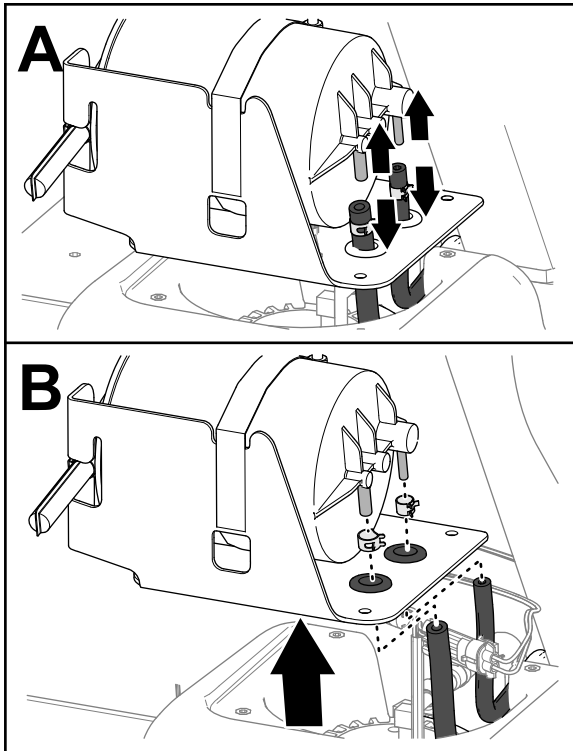

Figure 85
4. Separate the hoses from the fittings (Figure 85).
5. Remove the hose clamps from the hoses (Figure 85).
6. Remove the carbon canister from the fuel tank (Figure 85).